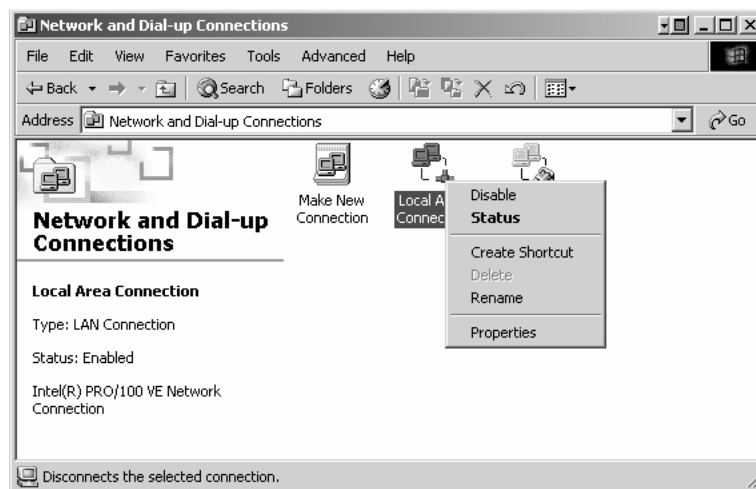

Figure 70: Network and Dial-up Connections - Windows 2000
2. A list of network adapters appears as shown in Figure 70. The **Local Area Connection** icon must appear on the page. If it does not, the network is not installed correctly.